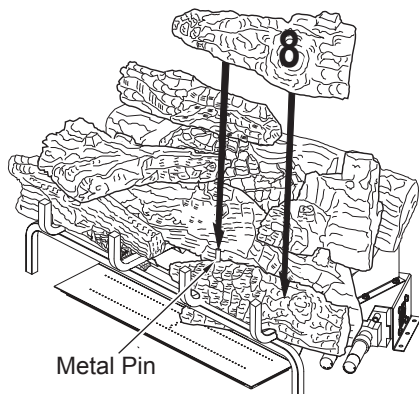

Figure 44 - Installing Log # 8
8. Place the front right mid log (#8) on top of the front right log (#4) as shown in Figure 44. Match the round metal pin on the top of the front right log (#4) with the round hole on the bottom of the front right mid log (#8).